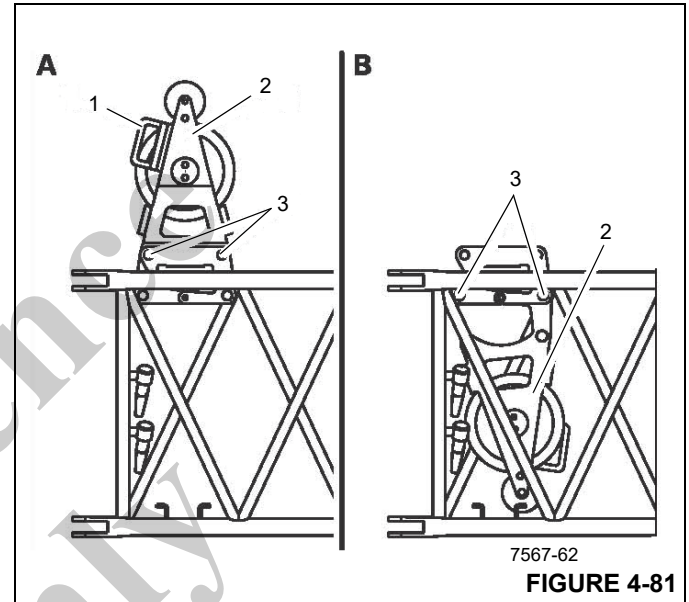

FIGURE 4-81
1. Remove the retaining clips from the pins (3) (Figure 4-81).
2. Hold the deflection sheave by the handle (1) and pull out the pins (3).
3. Fold the deflection sheave (2) downwards and fasten it in this position with the pins (3).
4. Secure the pins (3) using retaining clips.